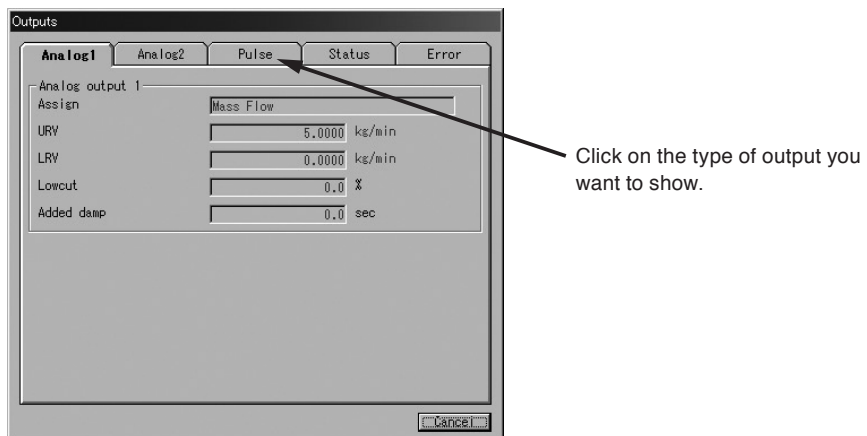

Fig.118
- ① Click on "Review (R)" at the top-level menu of the screen, select "Outputs" and click on again.
- ② A message box as shown in Fig. 118 appears. You can review individual outputs (analog outputs 1 and 2, pulse output, and status output).